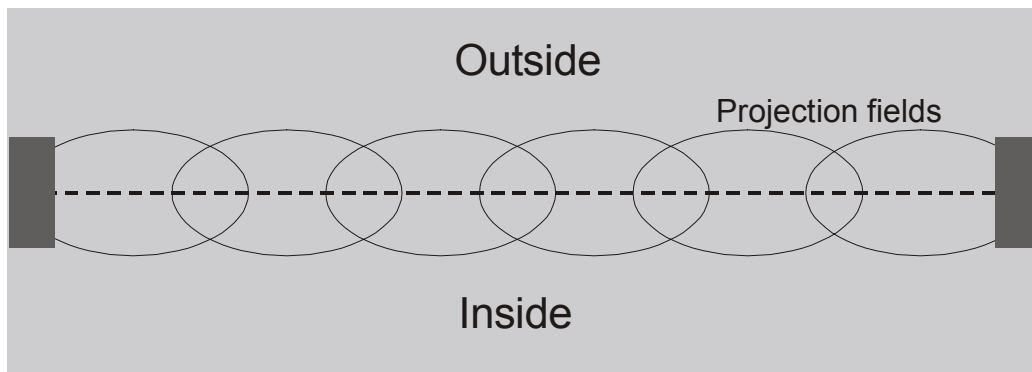

Fig. 2.3-1 Position of projection fields at the entrance
- If the entire entrance area is not covered, then people can walk in such a way that they do not cross the counting area (see Fig. 2.3-1)